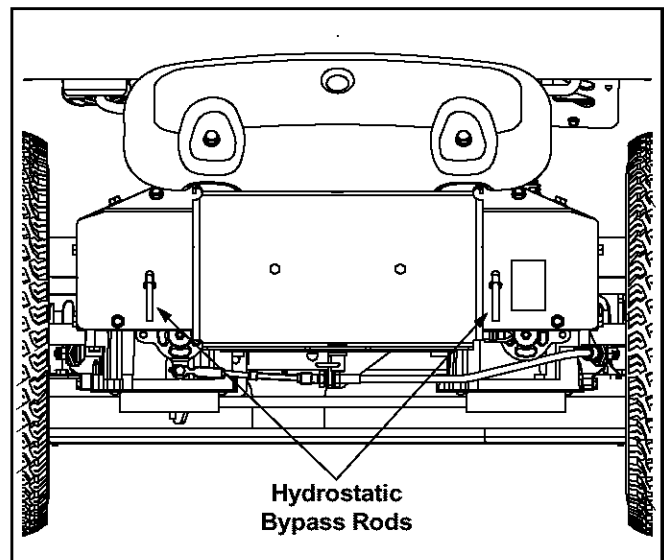

Figure 12
- Locate the hydrostatic bypass rods in the rear of the tractor. See Figure 12.